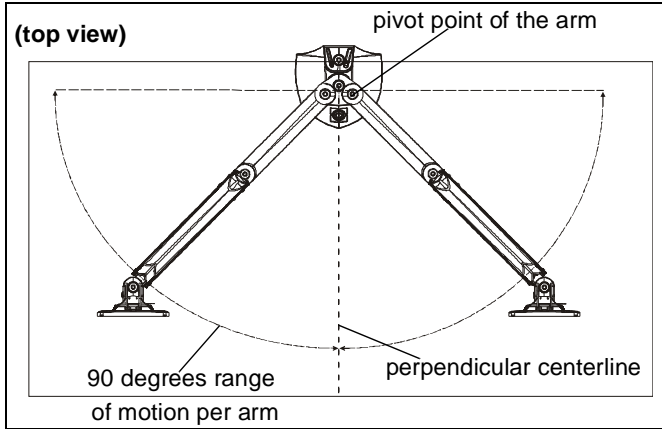

Figure 26
1. Adjust arm angles as desired within a 90 degree range from the pivot point of the arm and a perpendicular centerline of mount. (See Figure 26)